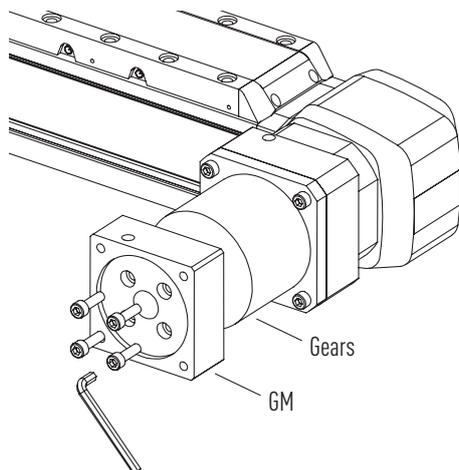

Fig. 6.61 Mounting the motor gear adapter plate GM (HM-B)
- ▶ Attach the motor gear adapter plate GM so that it lies flat on the gears. In doing so, note the position of the hole for the clamping hub's clamping bolt (see Fig. 6.61).